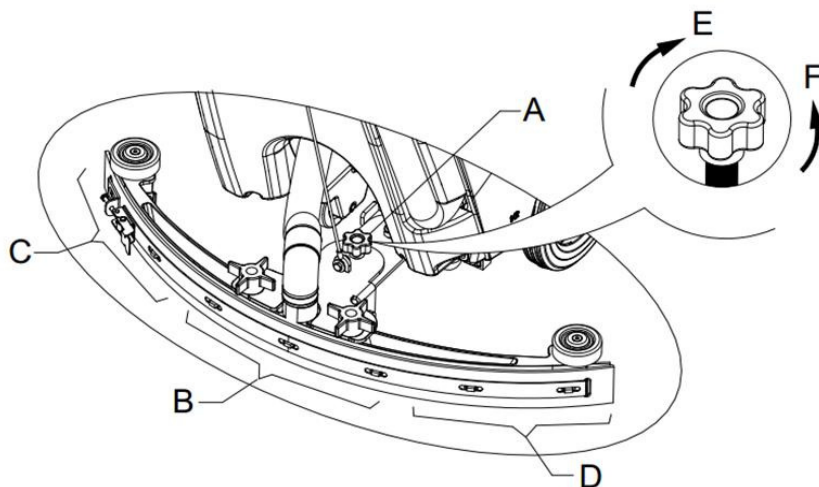

Figure 9
10. Adjust the squeegee through the adjusting handle (A) of the squeegee (see Figure 9).